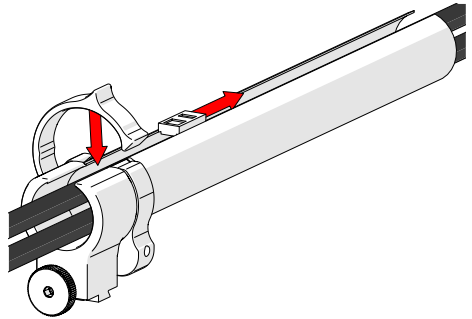

Fig. 90 - Zip up to close
2. Follow the cable placement, zipping the tube closed (*Fig. 90*).